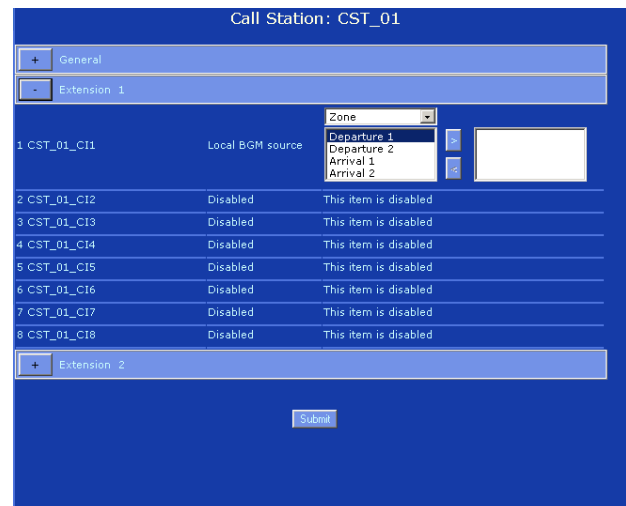

figure 38.54: Local BGM source, step 3
- 3 Click the *Extension* that contains the key that must be configured. A screen similar to the one in figure 38.54 appears in the main frame of the web interface.